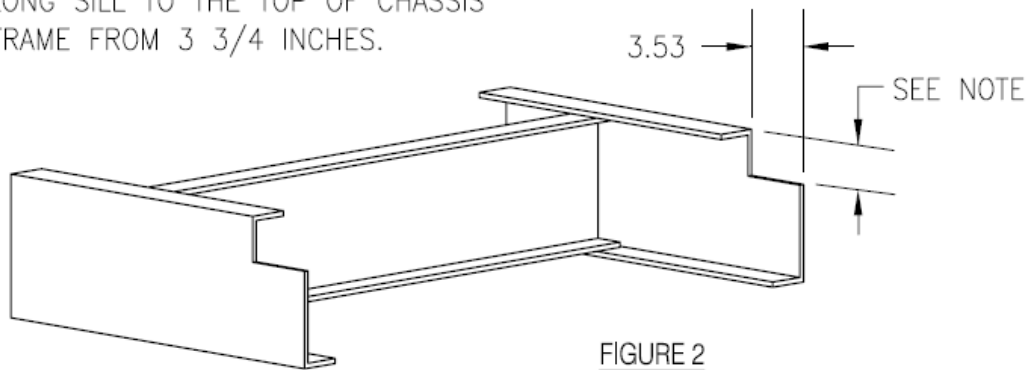

FIGURE 2
2. Cut a notch in each truck chassis frame rail as illustrated in Figure 2.